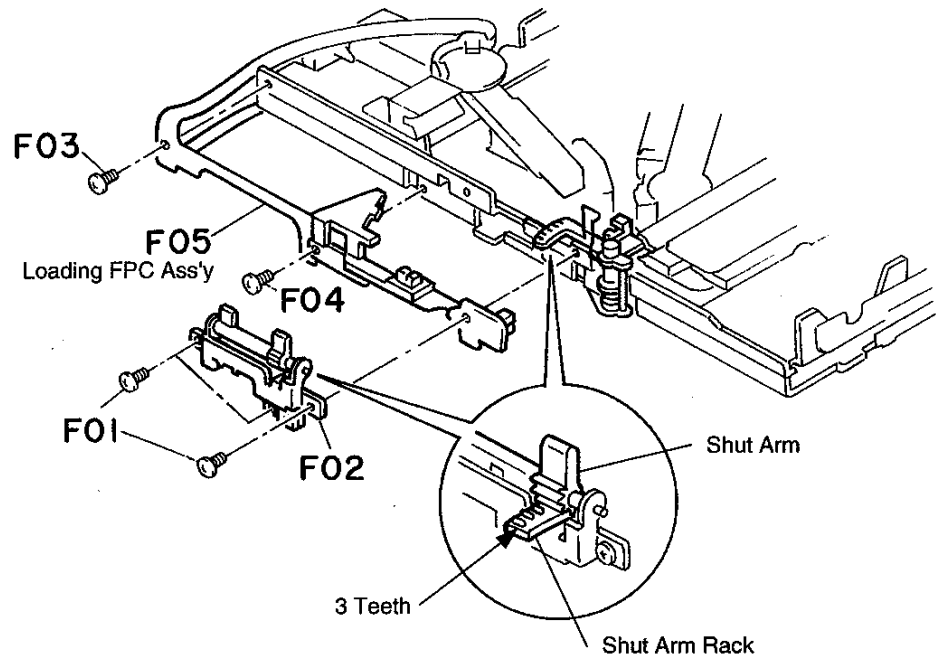

Fig. 2.10
Refer to Fig. 2.10.
- (1) Remove the Loading Ass'y. See 2.3 "Loading Ass'y".
- (2) Remove the screws F01 (M2x1.8 + Pan (Black), 3 pcs.) and detach F02 (Shut Arm Block) by shifting it to the right in Fig. 2.10.
- (3) Remove the screws F03 (M2x1.8 + Pan (Black), 1 pce.) and F04 (M2x2.5 + Pan, 1 pce.) that fasten F05 (Loading FPC Ass'y).
- (2) Shift the Shut Arm Block to the right in Fig. 2.10. Then, assemble it to the Shut Arm Rack of the Loading Ass'y. In this case, assemble it so that 3 teeth of the Shut Arm Rack comes out as shown when the Shut Arm is set free (set vertically).